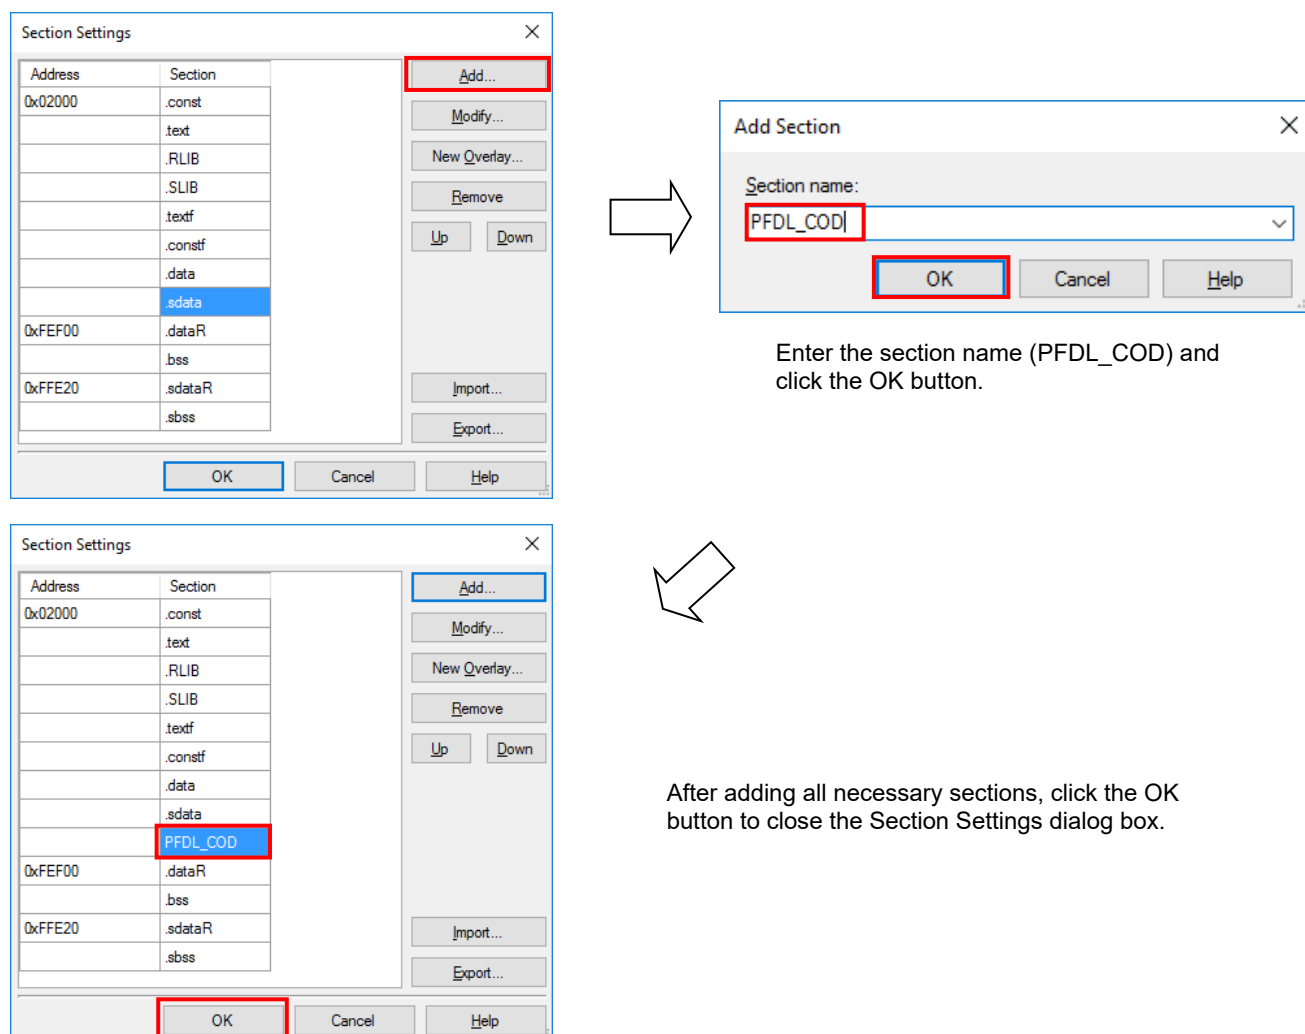

Figure 8-3. Example of Section Settings for the Data Flash Library when Using CS+ (ROM Area)
- Sections can be defined in the Section category on the Link Options tabbed page in the CS+ window. When the Layout sections automatically property is set to No, select the Section start address property to open the Section Settings dialog box and add the sections necessary for the data flash library to the ROM area (Figure 8-3).